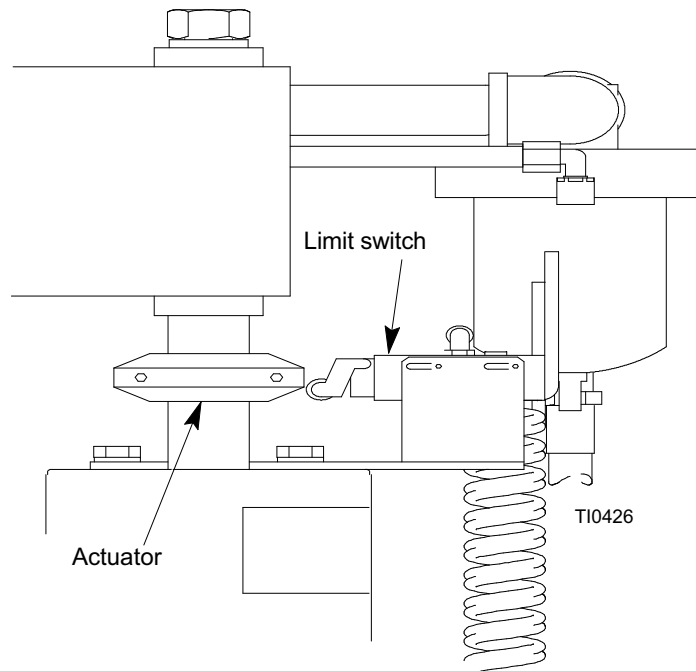

FIG. 8
- b. Verify that the Follower Plate (D) lowers to the limit set point: a level between 1 to 4 in. (25.4 to 101.6 mm) from the bottom of the drum.
- c. Adjust the actuator to activate the switch at the level defined in step 21.b. See FIG. 8.